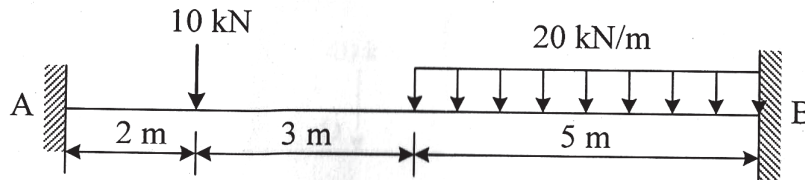

Fig. 2 (b)
- (b) Determine the fixed moment for the fixed beam loaded and supported as shown in Fig 2 (b). [6]